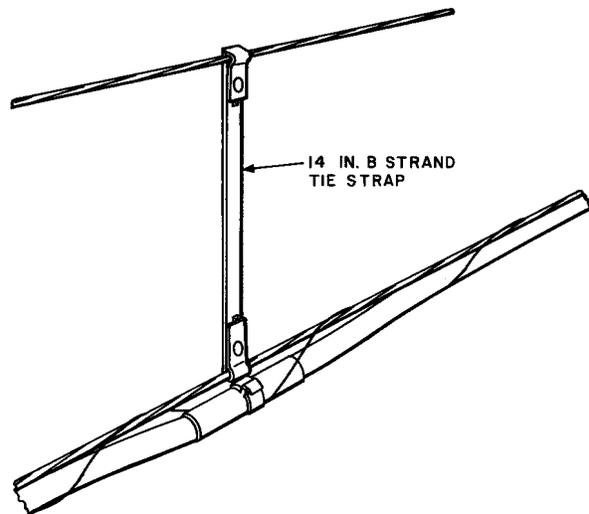

Fig. 11—14-Inch B Strand Tie Strap Placed With Cable Guard
4.18 Install the strand tie strap as outlined in 4.12, omitting (4). Fig. 11 shows an attached tie strap.